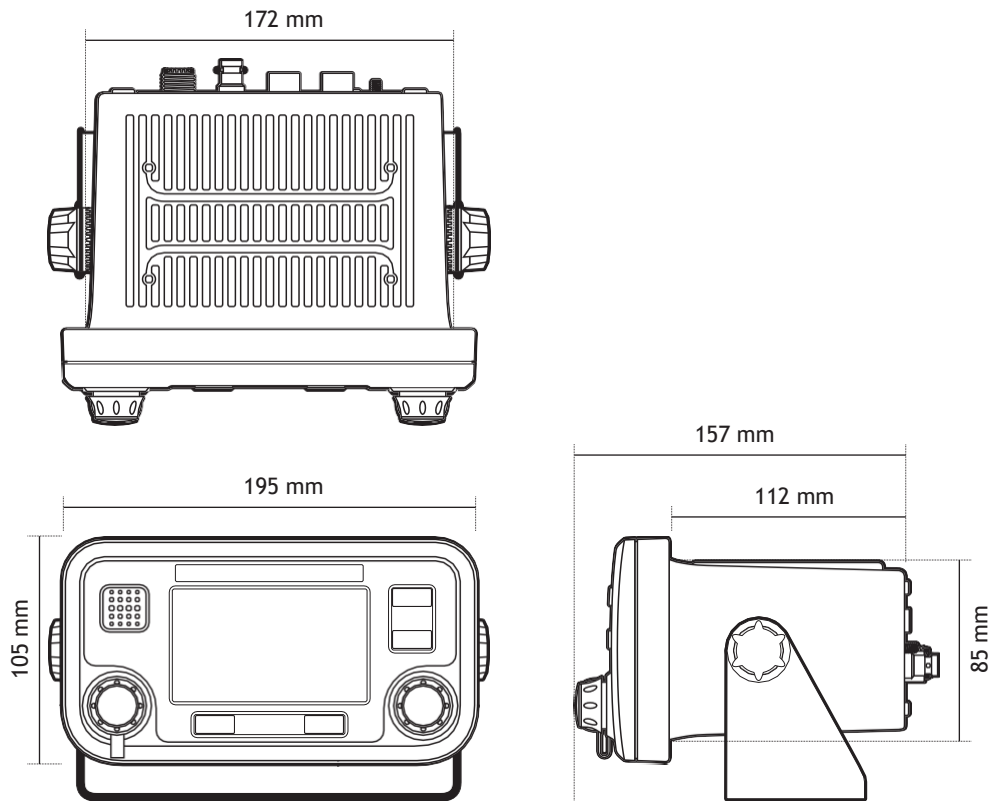

Figure 32 AIS transceiver dimensions
- There should be adequate space around the AIS transceiver for routing of cables. See Figure 32 for details of the AIS transceiver dimensions.